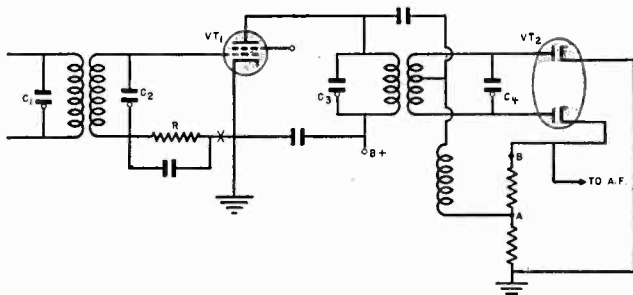

Fig. 8. Typical limiter and discriminator stage.
A typical limiter and discriminator stage in an f.m. receiver is shown in Fig. 8. The output indicator should be a microammeter having a range of about 120 microamperes. The Model 44 NRI Professional Volt-Ohm-Mil-Ammeter is an excellent instrument to use in this case. The proper alignment procedure follows:
1. As before, the signal generator and receiver are both turned on and allowed to warm up for several minutes. The set is turned off momentarily and the microammeter inserted in the grid return circuit in Fig. 8 at the point marked "X".
2. The Signal Generator is now tuned to the i.f. resting frequency of the set; this is generally 10.7 megacycles. Adjust the i.f. trimmers for maximum meter reading. Reduce the Signal Generator output if the grid current exceeds the range of your output indicator. When you reach the limiter input circuit, be sure that limiter grid current is at least 50 microamperes before making final adjustment of trimmers corresponding to C_1 and C_2 of Fig. 8. Repeat all i.f. trimmer condenser adjustments.
5. Leave the Signal Generator connections and the frequency setting just as they were for the final limiter and the i.f. adjustments. Connect a high resistance d.c. voltmeter between point A and ground in Fig. 8, with the negative probe at point A. Then adjust condenser C_3 for maximum meter reading. When this adjustment has been made, remove the meter probe from point A and connect it to point B so that the meter is between B and the ground.